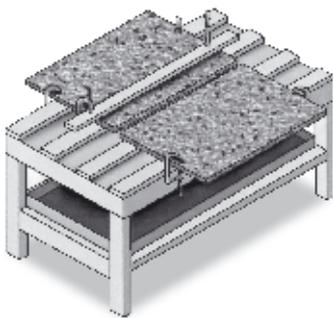

Fig. 1
- 10.7** Before bonding, cover the tray beneath the seaming table with a transparent tape in order to catch any overspill of adhesive (Fig. 1).